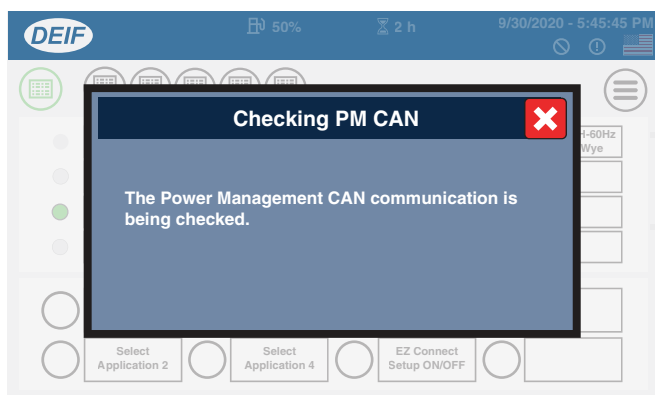

Figure 124. Checking PM CAN Screen
- Next, verify that the **Checking PM CAN** screen is displayed (Figure 124).